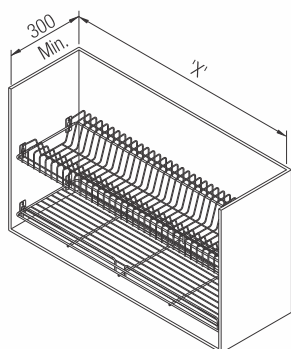

Fig. 1
1. Choose a suitable cabinet according to the specification of particular products (Fig. 1).